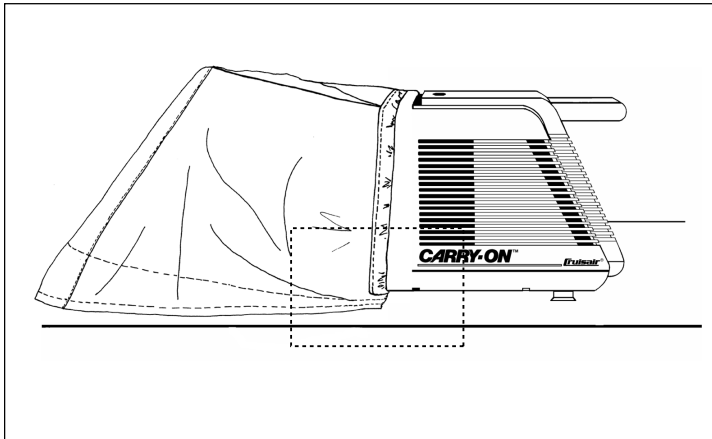

Figure 1. The Carry-On positioned in the boat hatch with the Hatch Bag in place. See inset Figure 2.
2. Place hatch bag over Carry-On in grooves provided. Do not allow hatch bag to cover air intake vents or condensate drain. (See Fig. 1.)